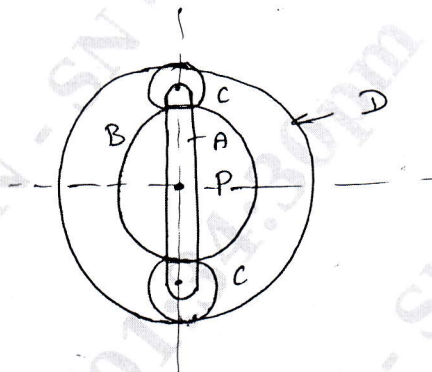

Fig Q8(b)
- b. The Fig Q8(b) shows an epicyclic gear train where the arm 'A' is the driver and the annular gear D is the follower. The wheel D has $\frac{1}{2}$ teeth and B has 48 teeth. B runs freely on P and D is separately driven. The arm 'A' runs at 100 rpm and wheel D at 50 rpm in same direction. Find the torque on B is A receives 7.5 kW.